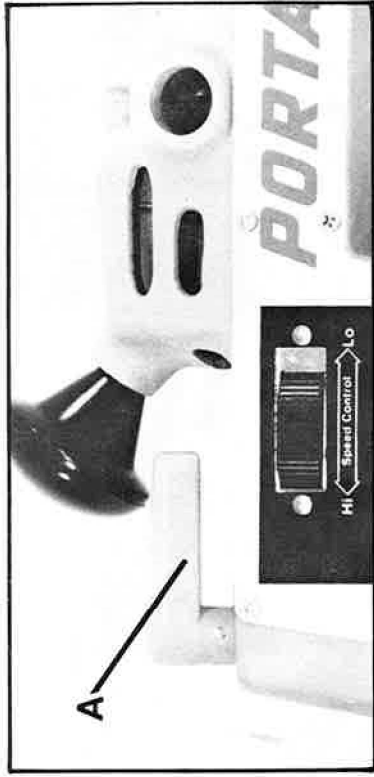

Fig. 4
**TO REMOVE BLADE** - Turn handle (A) Fig. 4, clockwise to release tension on the saw blade. Remove the blade, first from the pulleys and then from the blade guide.
Turn handle (A) Fig. 4 counterclockwise as far as it will go. This reinstates tension on saw blade.